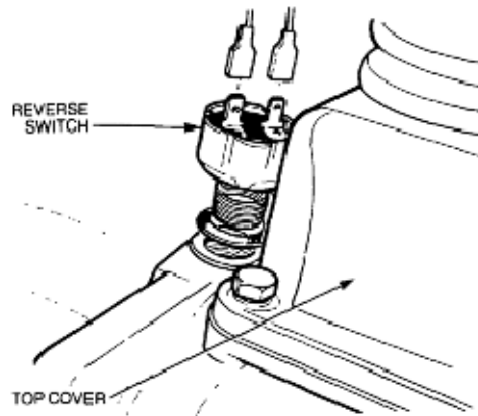

Figure 61 Reverse Switch Removal
- e. Unscrew the reverse light switch (Figure 61).